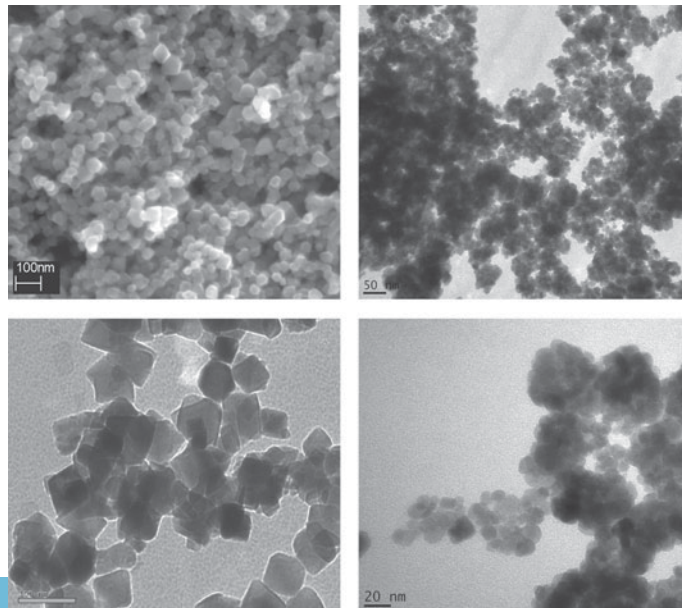

FIGURE 13.9 Magnetic particle under the microscope. (Photos courtesy of Silvio Dutz, IPHT Jena.)
- **Hysteresis losses:** Hysteresis loss is a heat loss, which is caused by the magnetic properties of the armature. Armature rotation leads to the change of direction of magnetic flux, and thus continuous movement of magnetic particles. Magnetic particles are particles within a magnetic element. These particles create the magnetic property of the material. Indeed, a magnet is formed by the integration of many magnetic particles. Figure 13.9 represents the schematics of magnetic particles that form a magnet.